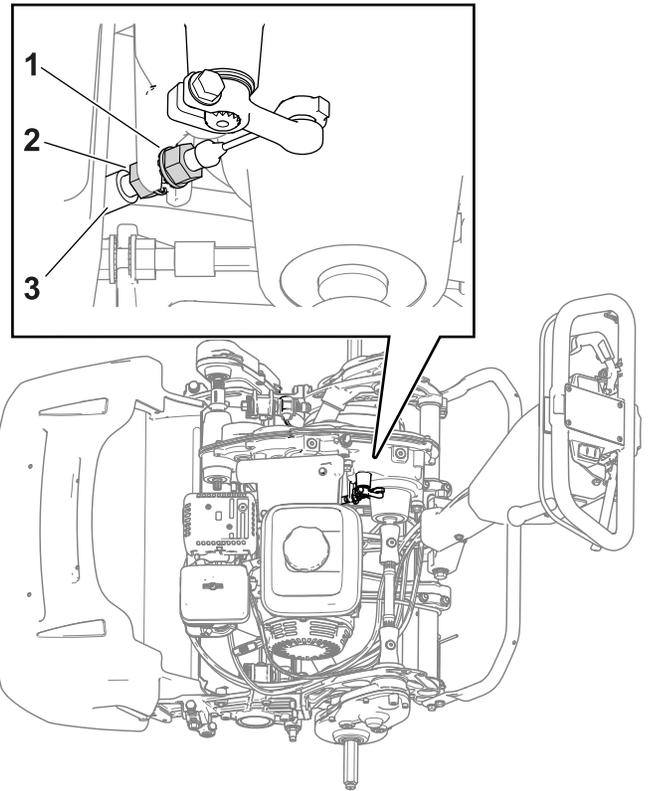

Figure 37
- To increase the cable tension, loosen the front-cable jam nut and tighten the rear jam nut (Figure 37). Repeat step 2 and adjust the tension if necessary.
- To decrease the cable tension, loosen the rear jam nut and tighten the front-cable jam nut (Figure 37). Repeat step 2 and adjust the tension if necessary.